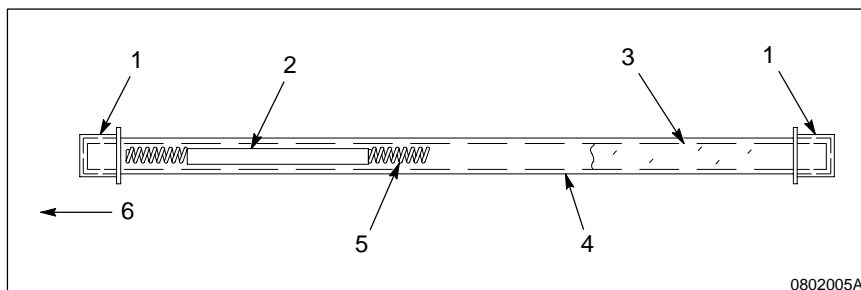

Fig. 5 Resistor service kit
See Figure 5. Use this procedure to install a new electrostatic cable and service resistor kit, or to replace the resistor kit and continue to use the existing electrostatic cable.
3. See Figure 5. Install the resistor service kit into the high-voltage bore of the gun:
- a. Remove the plastic caps (1) from each end of the insulating tube (4).
- b. Install the resistor end (6) of the insulating tube (4) into the high-voltage bore of the extension. (The end of the insulating tube containing the dielectric grease (3) should go into the bore last.) The insulating tube will protrude from the end of the gun about 10.16 cm (4.0 in).
3. See Figure 5. Install the resistor (2), spring-end (5) first, into the insulating tube (4).
4. Install the greased insulating tube (4), resistor-end (6) first, into the high-voltage bore. (The end of the insulating tube containing the dielectric grease (3) should go into the bore last.)